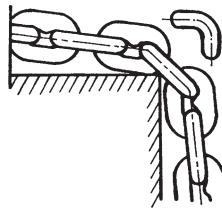

Fig. 9
4. Prevent the chain from dragging over sharp edges or corners. These will cause links to weaken, bend, or break. See Fig. 9.